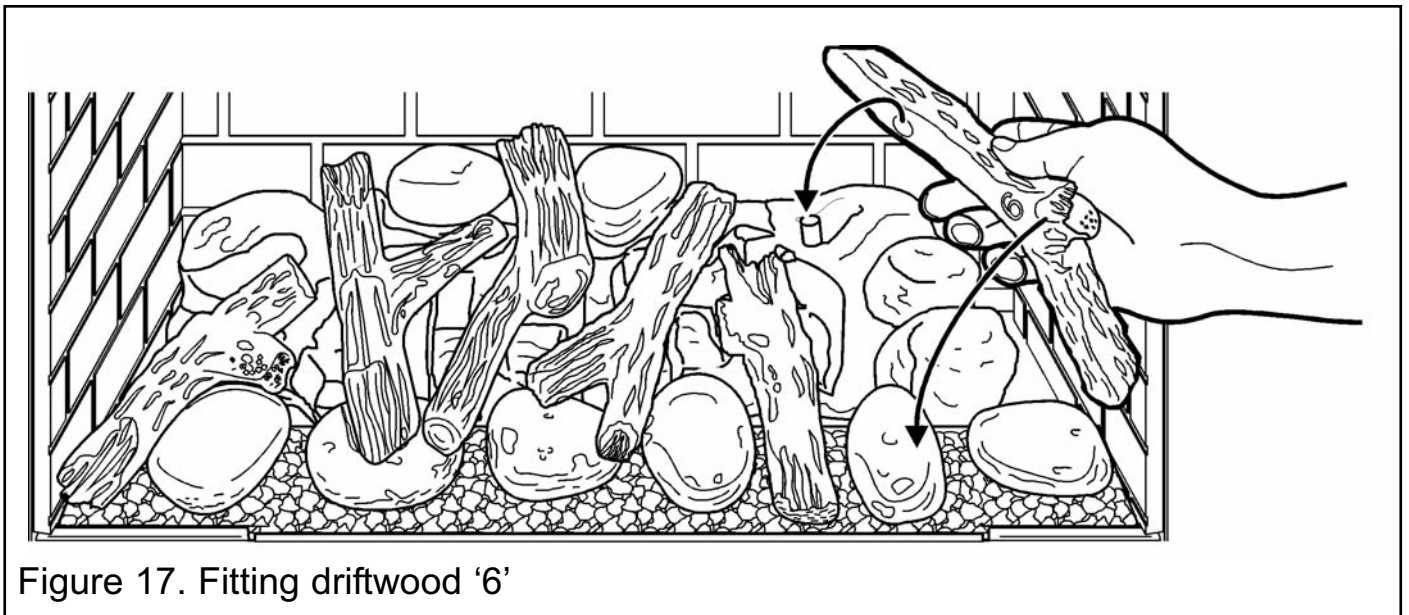
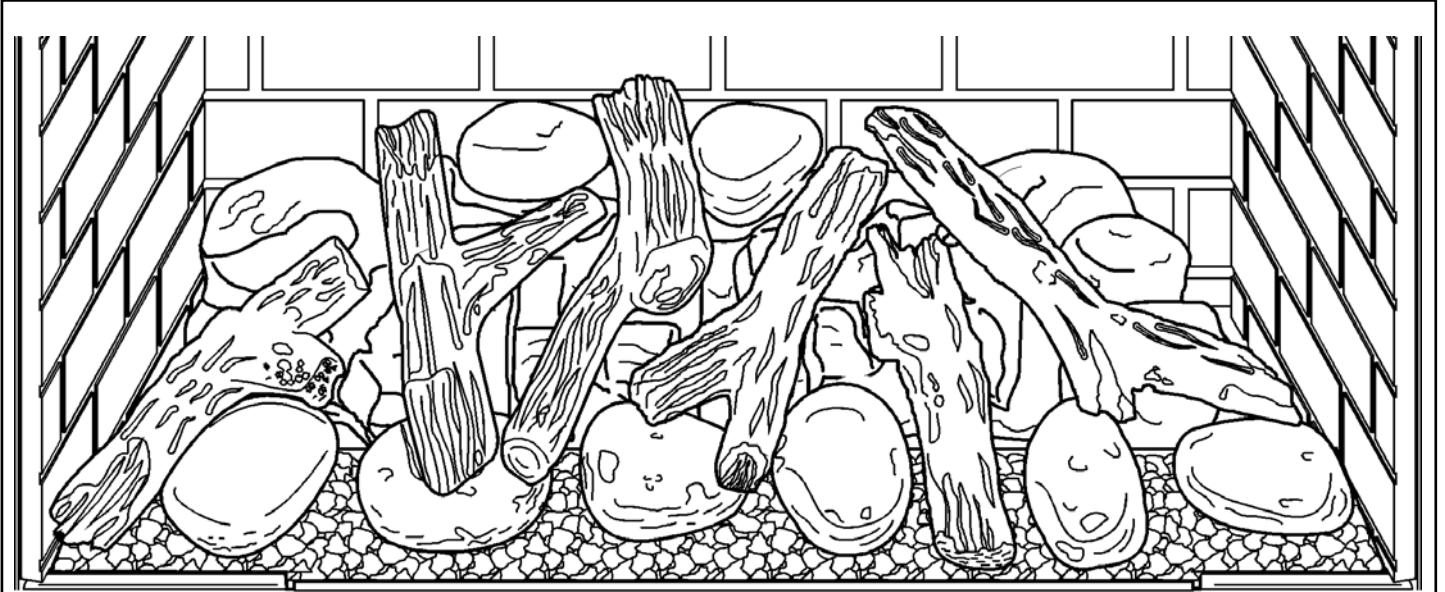

Figure 17. Fitting driftwood '6'
Figure 18. Complete set
17. Hold driftwood '6' as in figure 17. Locate the hole in the base of driftwood '6' onto the peg in the fuel effect base. The opposite ends of the driftwood should rest on top of pebble 'E' and 'F' (See figure 18). It is important that driftwood '6' lies against the fuel effect base. Ensure that it is not held away from the fuel effect base by the ceramic peg.